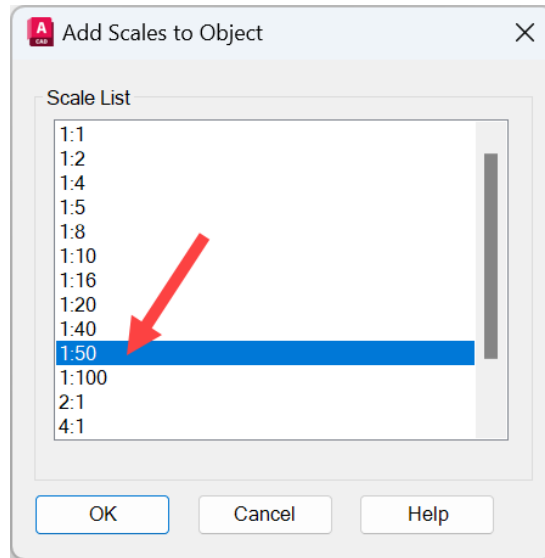

Figure 8.31: The Add Scales to Object dialog box
6. The **Add Scales to Object** dialog box is displayed, as shown in *Figure 8.31*. Select the **1:50** scale and click on **OK**. The dialog box closes, and you are returned to the **Annotation Object Scale** dialog box: